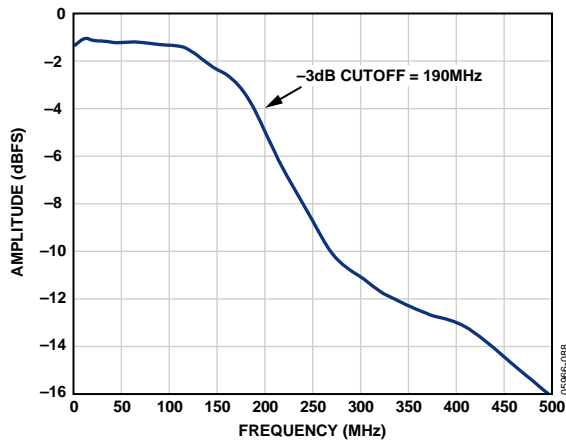

Figure 61. Evaluation Board Full-Power Bandwidth
- **AIN:** The evaluation board is set up for a transformer-coupled analog input with an optimum 50  $\Omega$  impedance match of 190 MHz of bandwidth (see Figure 61). For more bandwidth response, the differential capacitor across the analog inputs can be changed or removed. The common mode of the analog inputs is developed from the center tap of the transformer or AVDD\_DUT/2.